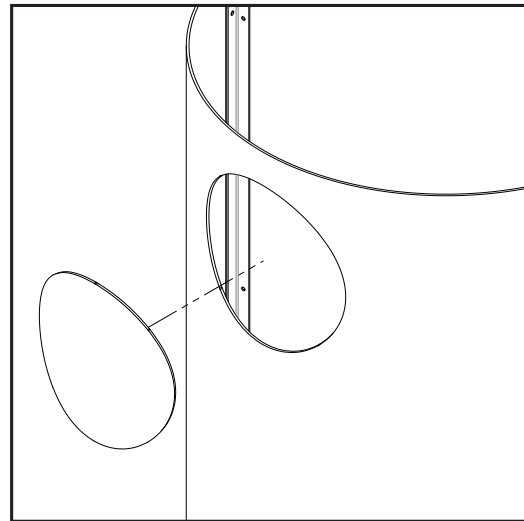

Figure 73: Rear Chassis Punchout
12. Remove the punchout from the rear chassis using a sizeable hammer (see Figure 73). Place a cloth down around the perimeter to prevent damage to the chassis in case you accidentally strike the painted surface.